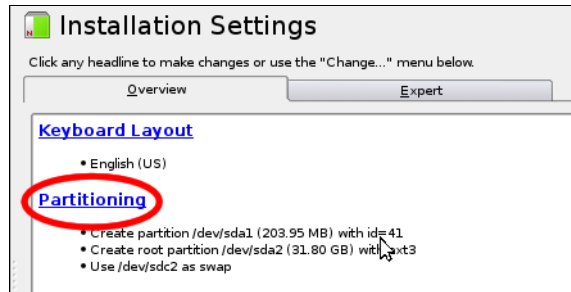

Figure 4-7 SUSE Linux Enterprise Server 11 SP1 installation settings
1. Boot from an installation DVD. Follow the installation configuration windows until you come to the Installation Settings window shown in Figure 4-7 on page 188.